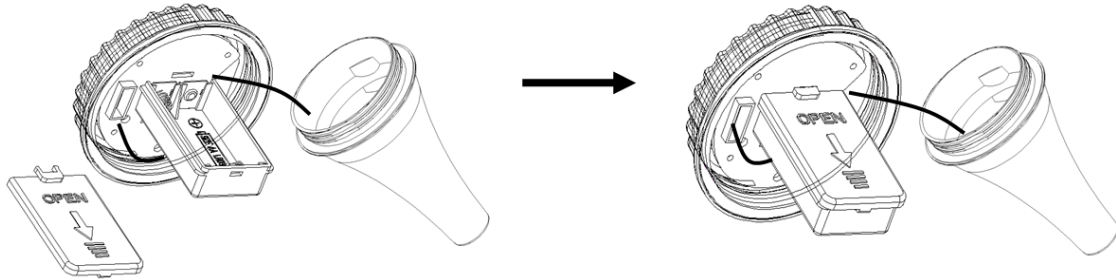

Figure 2
2. Insert two AA batteries and close the battery door, as shown in Figure 2.